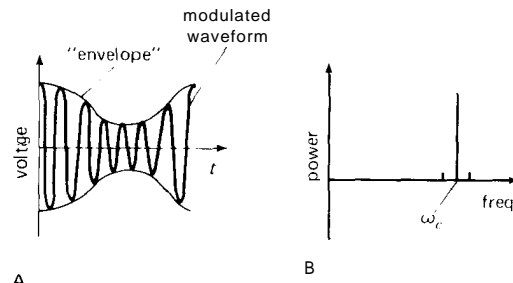

Figure 13.37. Amplitude modulation.
i.e., the modulated carrier has power at frequency ω_c and at frequencies on either side ω_m away. Figure 13.37 shows the signal and its spectrum. In this case the modulation (m) is 50%, and the two "sidebands" each contain $\frac{1}{8}$ of the power contained in the carrier.